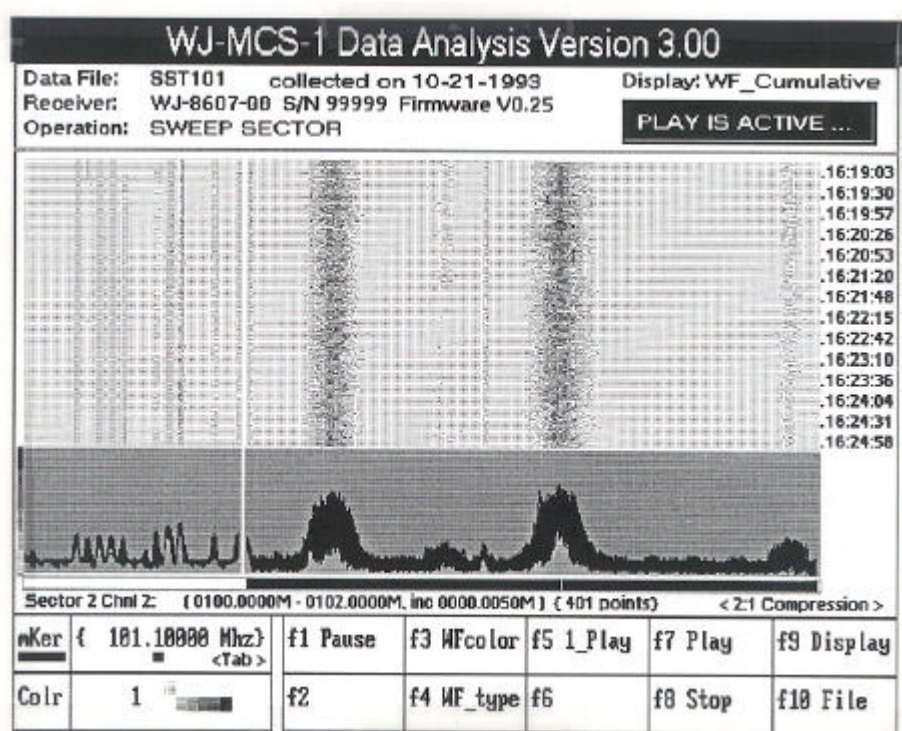

Figure I-40. DATA ANALYSIS WF_Cumulative Display
4. "WF_Cumulative" - (waterfall cumulative, shown in **Figure I-40**) provides the cumulative captured signal activities on the two-dimensional display. This display option shows the signal amplitude of the logged spectrum in a line graph format similar to WF_Line 3 for each sweep. It does not clear the display between sweeps thereby presenting an accumulation of sweep data for the sector swept. This display allows the operator to evaluate the density of the monitored frequency range. By allowing the display to update for a reasonable period of time, the operator can readily determine which sections of the monitored spectrum are unused.